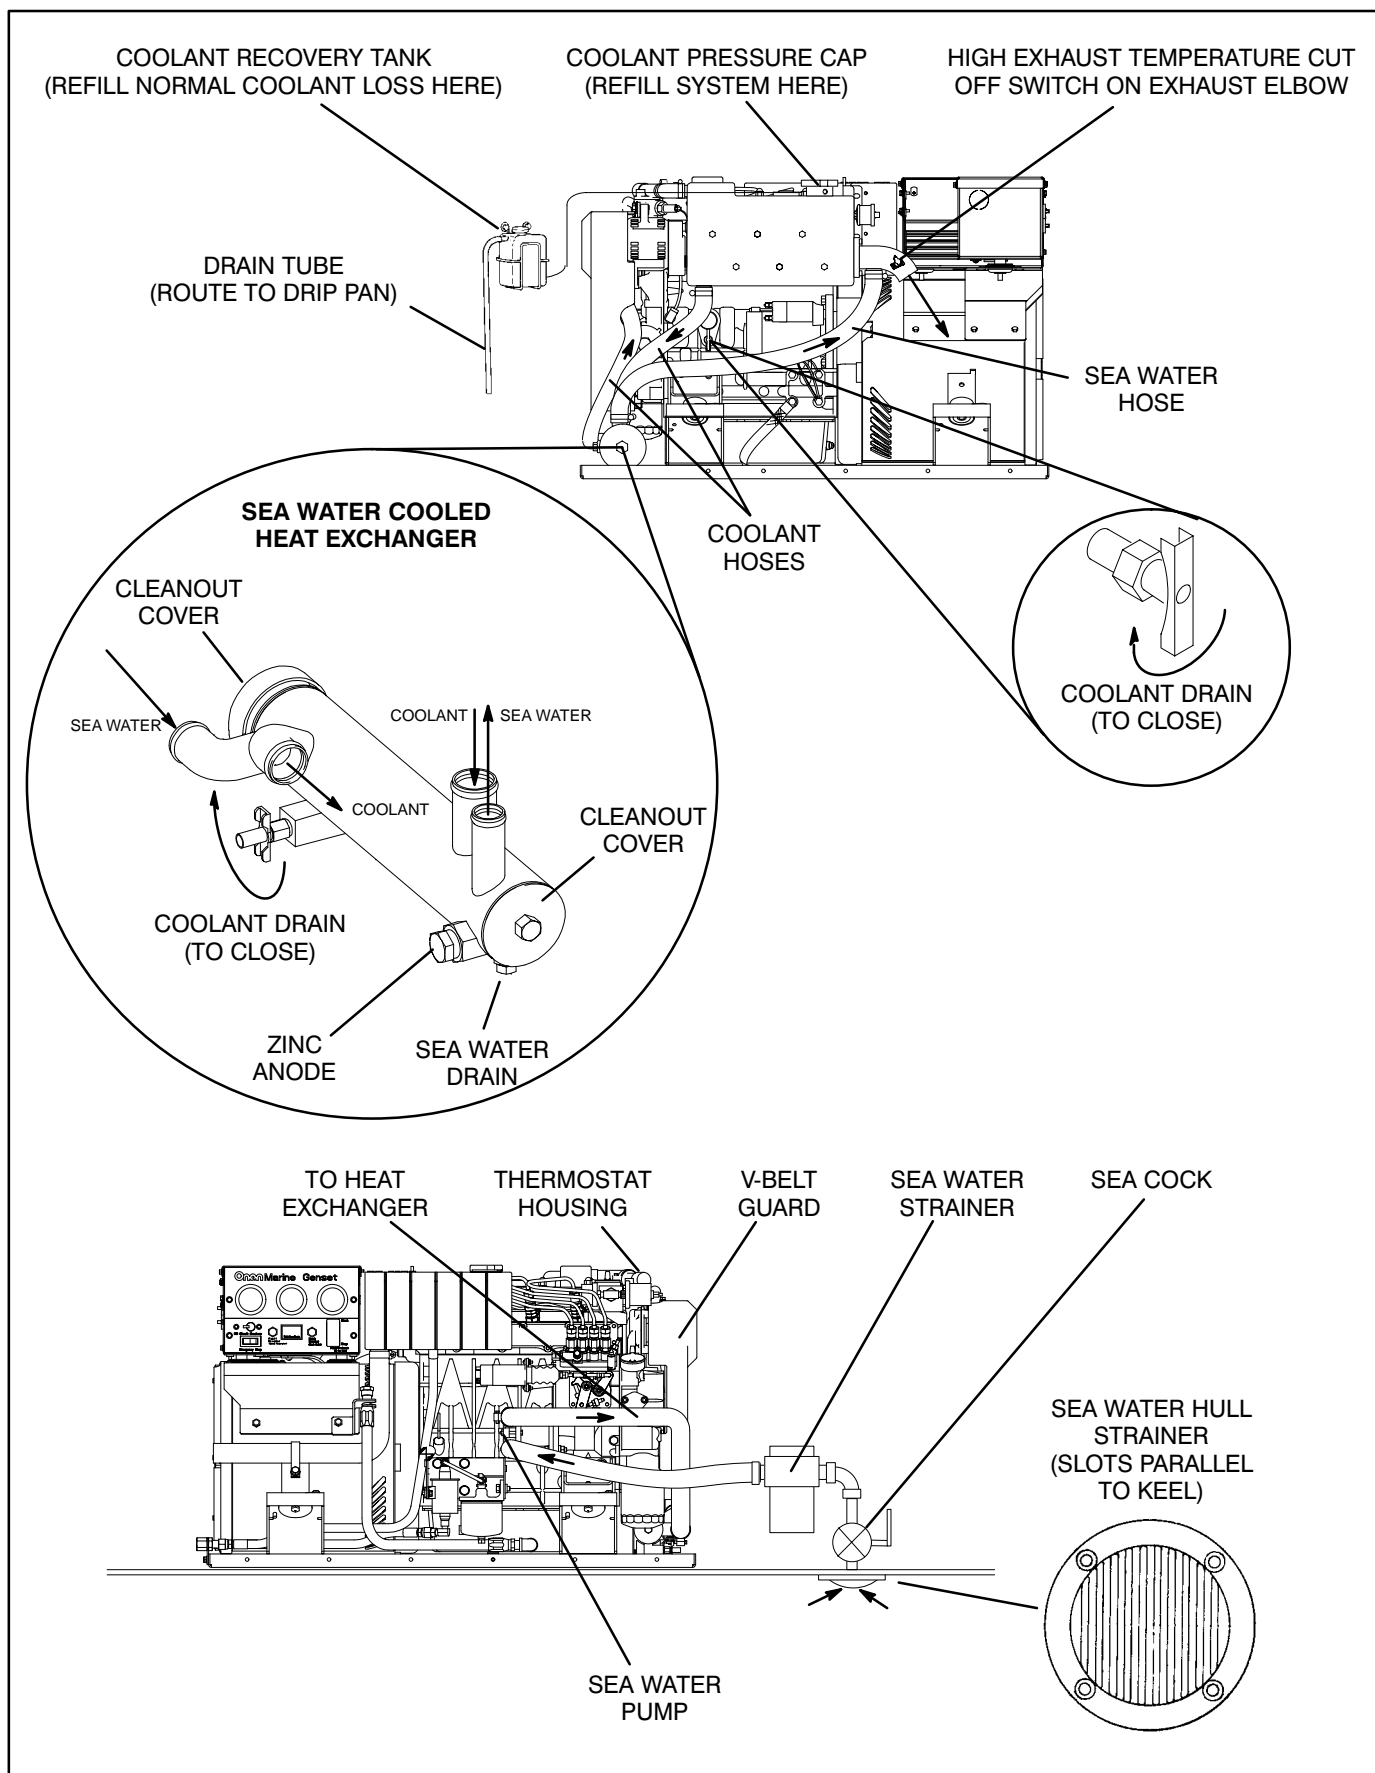

FIGURE 5. TYPICAL HEAT EXCHANGER-TYPE COOLING SYSTEM
5. If freezing temperatures are possible, drain the heat exchanger of sea water by removing the drain plug in the bottom of the heat exchanger (Figure 5). Replace the plug when the water has drained.
If the genset has a heat exchanger and/or a wet exhaust elbow, the engine is equipped with a sea water* pump driven by a power takeoff on the engine. The sea water cools the heat exchanger and/or exhaust gases and exits the vessel through the exhaust system. (There is no sea water pump if the genset is equipped for keel cooling and dry exhaust.) Figure 5 illustrates a typical installation of a genset equipped with a heat exchanger, wet exhaust elbow and sea water pump.
Draining the System: Let the engine cool down, disconnect the negative (-) cable(s) at the battery(ies) to prevent the engine from starting, remove the system pressure cap and open the block and heat exchanger drain cocks (Figure 5). See the manufacturer's instructions regarding a keel cooler. Collect used coolant in containers for proper disposal.